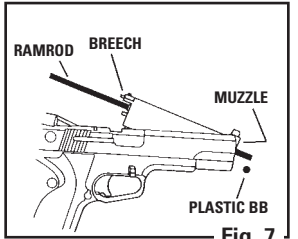

Fig. 7
- Check to make sure the barrel is completely unloaded by pointing the muzzle toward an object with a light background and looking through the breech. If there is a pellet in the barrel, push the pellet out of the muzzle end of the barrel using a ramrod of the proper size (Fig. 7).